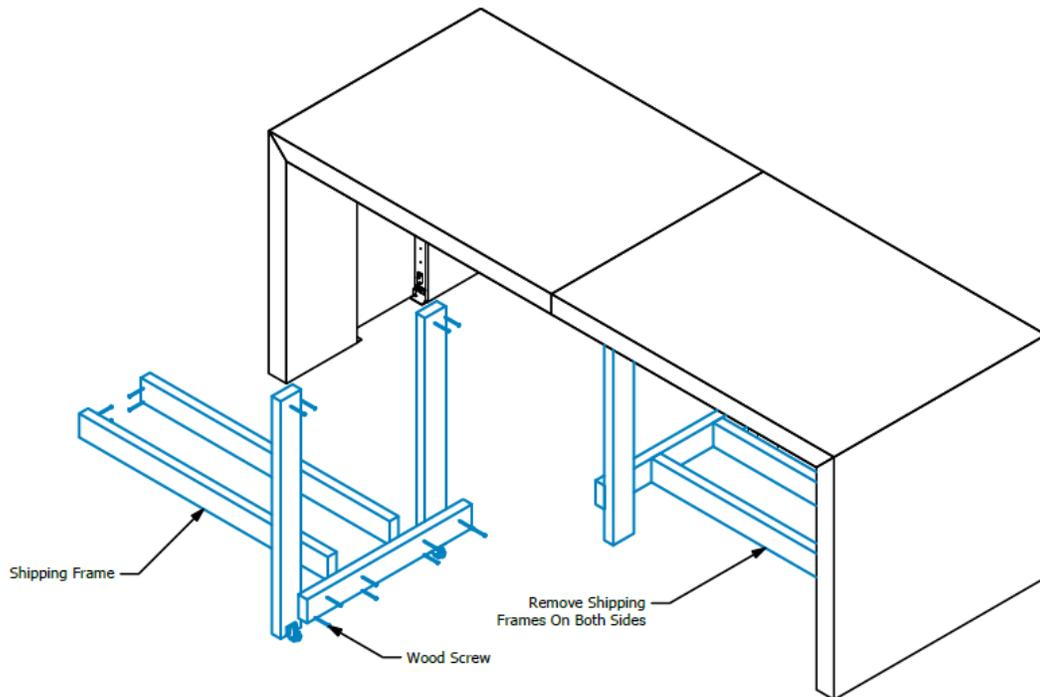

Fig 05: Shipping Frame Removal
2.1.5 Using a #2 Phillips Driver, unscrew and discard all shipping frames. [Fig. 05]